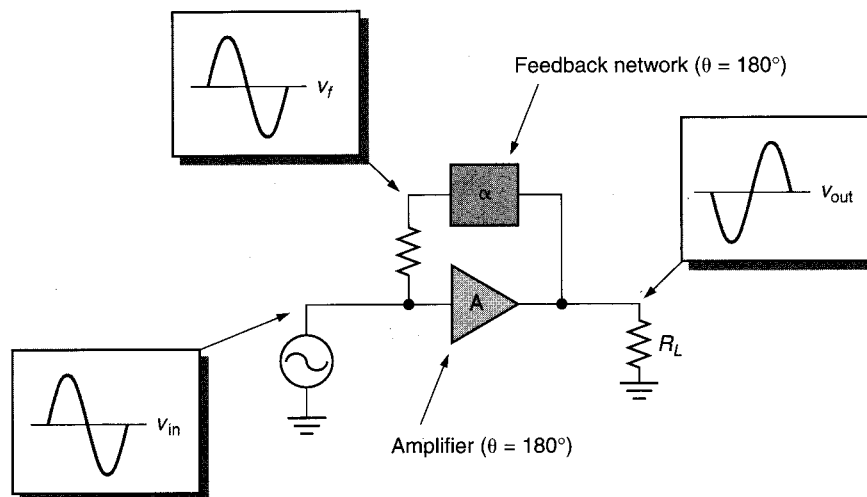

FIGURE 15.43 Obtaining positive feedback.
**Positive feedback** provides a feedback signal that is in phase with the circuit input. One method of obtaining positive feedback is represented in Figure 15.43. In this case, the amplifier and the feedback network *each* introduce a 180° voltage phase shift into the loop. This results in a total voltage phase shift of 360° (or 0°), and the feedback signal is in phase with the circuit input. The same result can be achieved using an amplifier and feedback network that each introduce a 0° phase shift. In either case, the feedback signal and input signals are in phase.